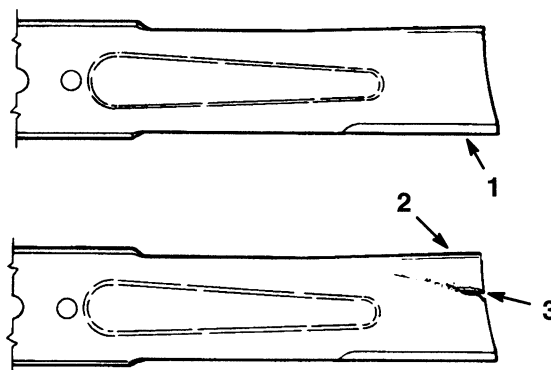

Figure 24
2. Inspect the cutting edges (Fig. 24). If the edges are not sharp or have nicks, remove the blade(s) and sharpen them; refer to Sharpening the Blade(s), page 18.
3. Inspect the blade(s), especially the curved area (Fig. 24). If you notice any damage, wear, or a slot forming in this area (Fig. 24), immediately install a new blade.